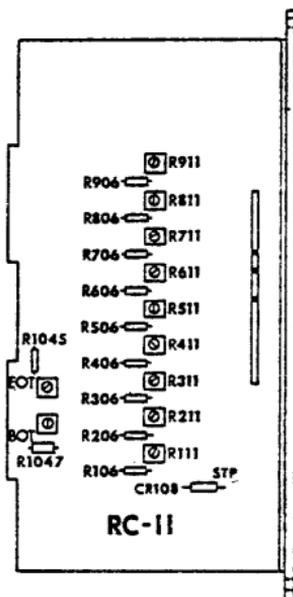

FIGURE 15
- 800 BPI - Connect the scope probe to the right side of diode CR108, labeled STP on the RC-11 card. (See Fig. 15)
- Repeat the above procedure for TP R206 through TP R906, adjusting each respective pot as necessary. (See Figure 15)